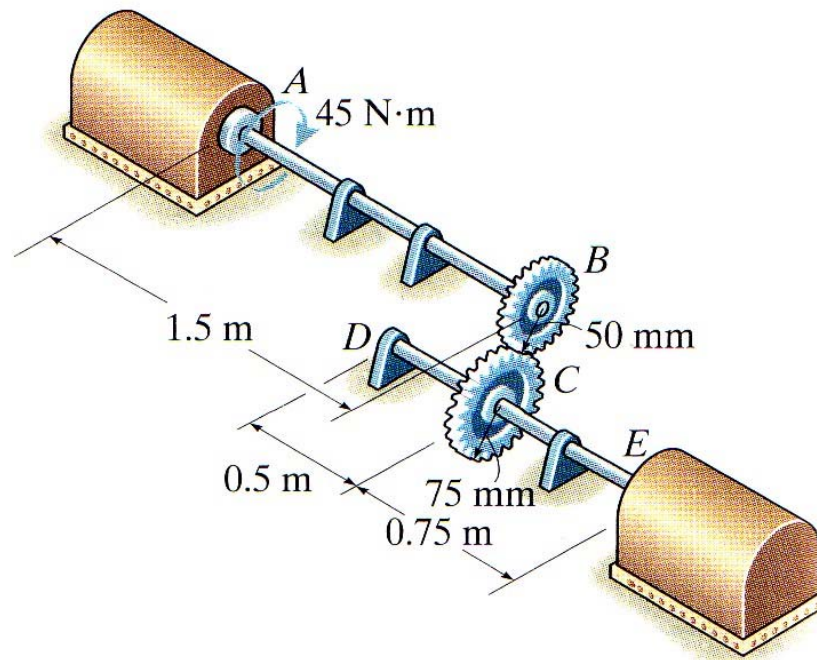

Figure Q1[b]
- [b] The 50 mm diameter shafts are made of steel with the shear modulus of elasticity of material, $G = 80$ GPa and supported on journal bearings that allow the shaft to rotate freely as shown in Figure Q1[b]. If the motor A develops a torque of $T = 45$ N.m on the shaft AB, while the turbine at E is fixed from turning, determine**